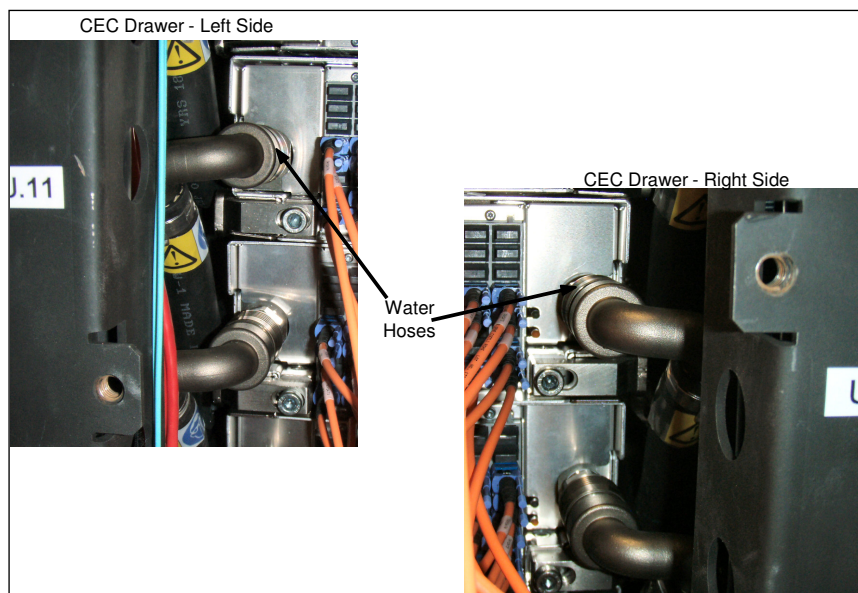

Figure 27 CEC Drawer rear water connections
STEP 38 Disconnect the two water hoses from the left and right rear(see Figure 27) of the CEC Drawer. Disconnect the hoses by pulling the retaining ring on the hose, see Figure 28.